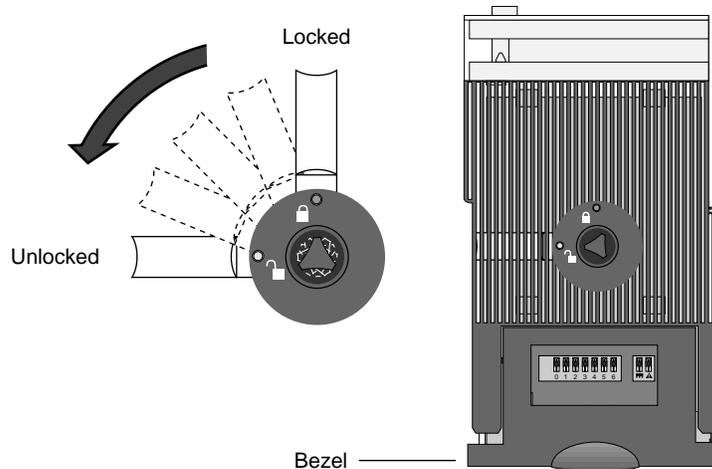

Figure 11. Unlocking the HDDA drive drawer
2. Locate the HDDA drive drawer key and unlock the drive drawer (Figure 11).
7. Remove the lower bezel from the front of the HDDA drawer by lifting it off from the bottom (Figure 11).